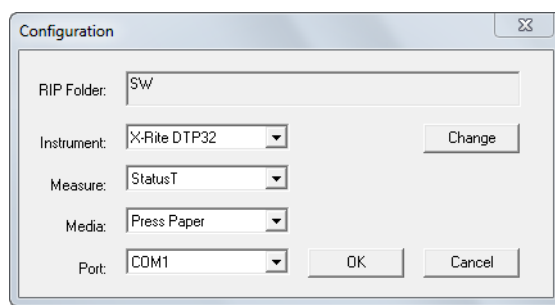

Figure C.1 Configuration dialog box
1. Choose **File > Configure** to display the Configuration dialog box, as shown in Figure C.1.
The default is the relative path to the `SW` folder of the RIP with which Genlin is supplied (as shown in Figure C.1).